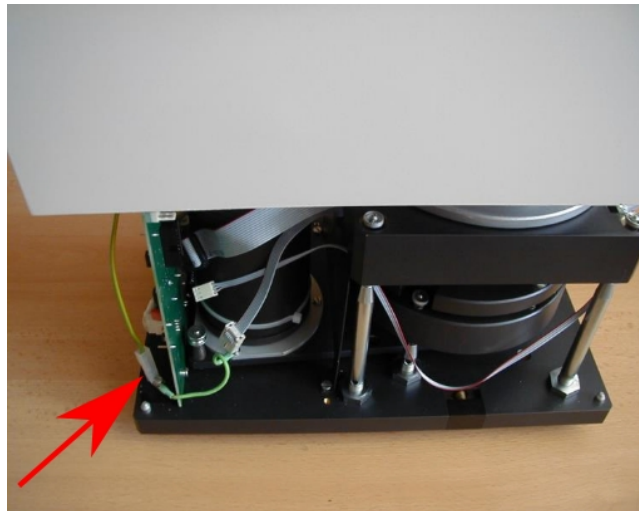

Figure 2: Grounding cable
- Do not forget to unplug the grounding cable marked by the red arrow, as it is shown in Fig. 2